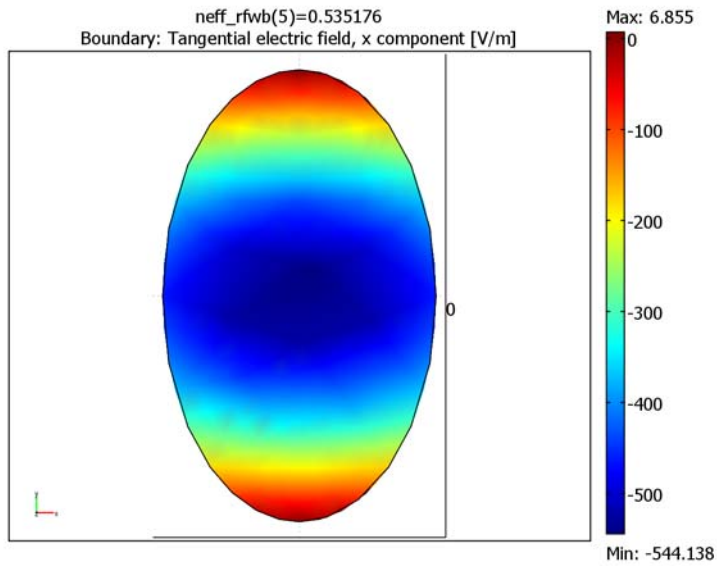

Figure 3-15: The x component of the electric field for the first eigenmode of the elliptical port.
Figure 3-15 displays the first eigenmode of the elliptical port. The effective mode index is $\beta/k_0 = 0.535$.
- 5 Click **OK** to plot the field and click the **Go to XY View** button to better see the field (see Figure 3-15 on page 119)